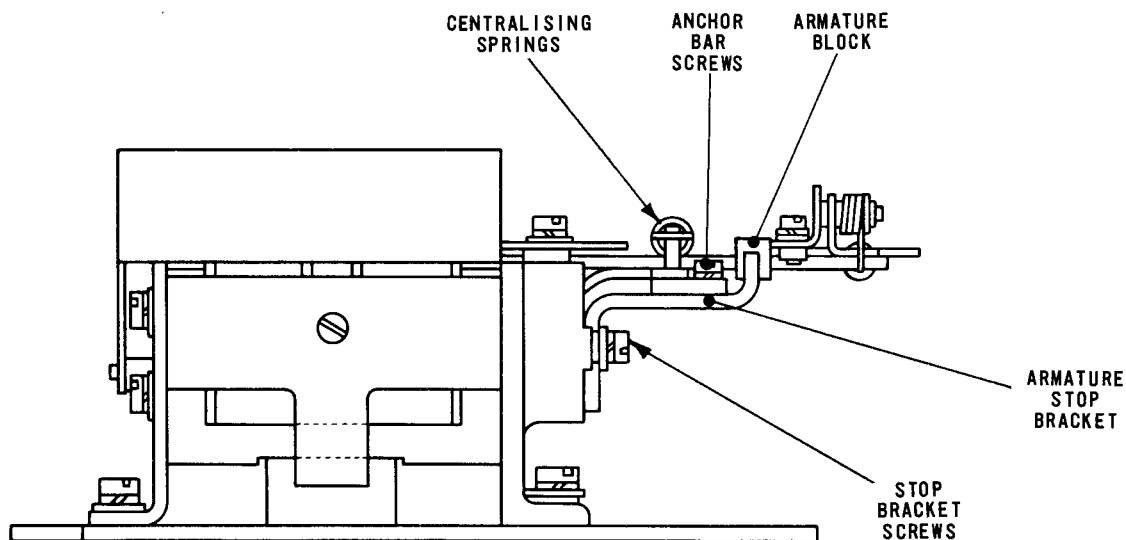

Fig. 4.1 ELECTROMAGNET
- 1.1 Disconnect the centralising springs, Fig.4.1, from the armature. Apply a tension gauge to the armature block and check that the force necessary to move the armature from side to side is between 6 and 8 ounces (170-227 grammes), and that the forces in the two directions do not differ by more than 1 ounce (28 grammes). If no adjustment is required, connect the centralising springs.
- 2.1 Apply a tension gauge to the end of the armature, Fig.4.1, and check that a force of 1½-3 ounces (43-85 grammes) is now sufficient to move the armature from side to side, and that the forces in the two directions do not differ by more than ½ ounce (14 grammes).